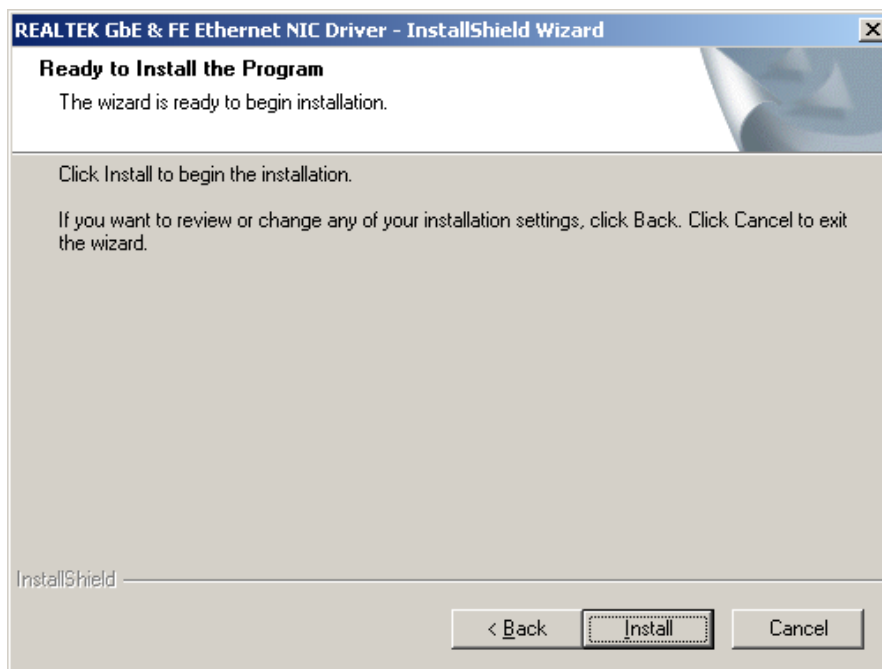

Figure 6-9: Realtek LAN Driver Ready to Install
Step 3: Click **NEXT** and the **Ready to Install** screen appears (**Figure 6-9**).